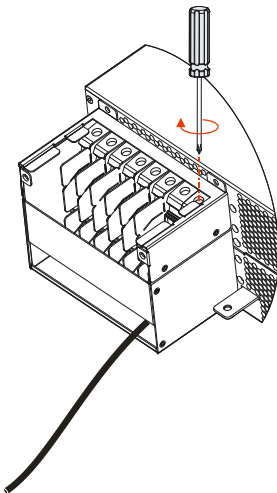

Figure3-26 Connect the wires
Step 3 Connect the wires in accordance with 3.4.1 Wiring Operation as shown in Figure3-26.